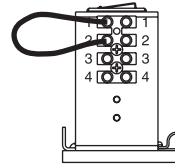

Figure 30
4. Using a short jumper cable, jump terminals 1 and 2 to activate unit. When door reaches 20°, flip Breaker Switch to "OFF" position cutting power to unit. Allow door to fully close (door may be manually pulled closed). (Figure 30)